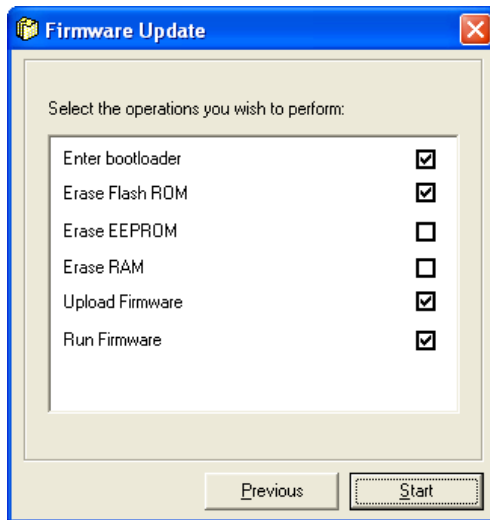

Figure 38 – Operations window
12. The Firmware Updater window will show each step as the firmware is uploaded. **Do not** turn the nephelometer off until the 'Close' button is enabled as shown in Figure 38.